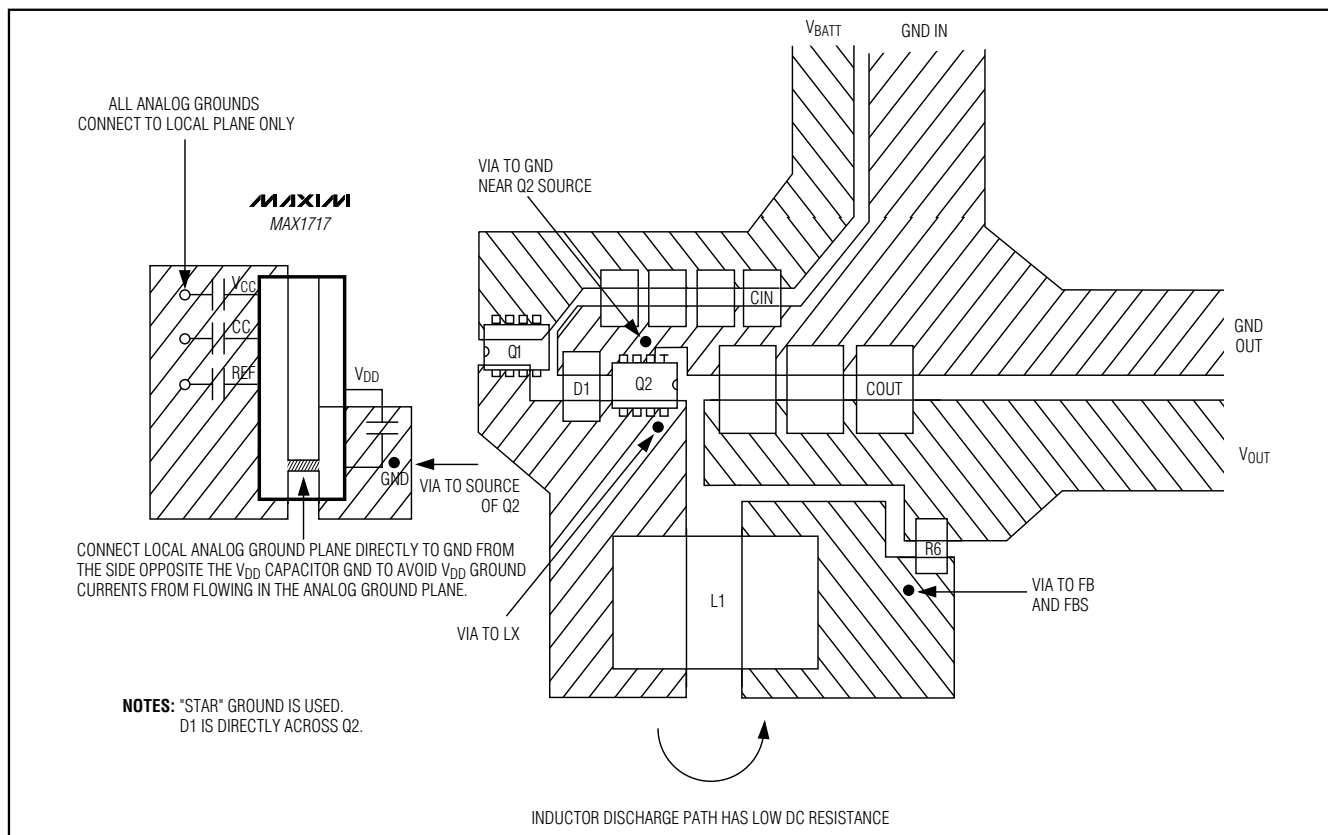

Figure 12. Power-Stage PC Board Layout Example
Careful PC board layout is critical to achieve low switching losses and clean, stable operation. The switching power stage requires particular attention (Figure 12). If possible, mount all of the power components on the top side of the board with their ground terminals flush against one another. Follow these guidelines for good PC board layout:
- 4) Make the DC-DC controller ground connections as shown in Figure 12. This diagram can be viewed as having three separate ground planes: output ground, where all the high-power components go; the GND plane, where the GND pin and VDD bypass capacitors go; and an analog ground plane where sensitive analog components go. The analog ground plane and GND plane must meet only at a single point directly beneath the IC. These two planes are then connected to the high-power output ground with a short connection from GND to the source of the low-side MOSFET Q2 (the middle of the star ground). This point must also be very close to the output capacitor ground terminal.